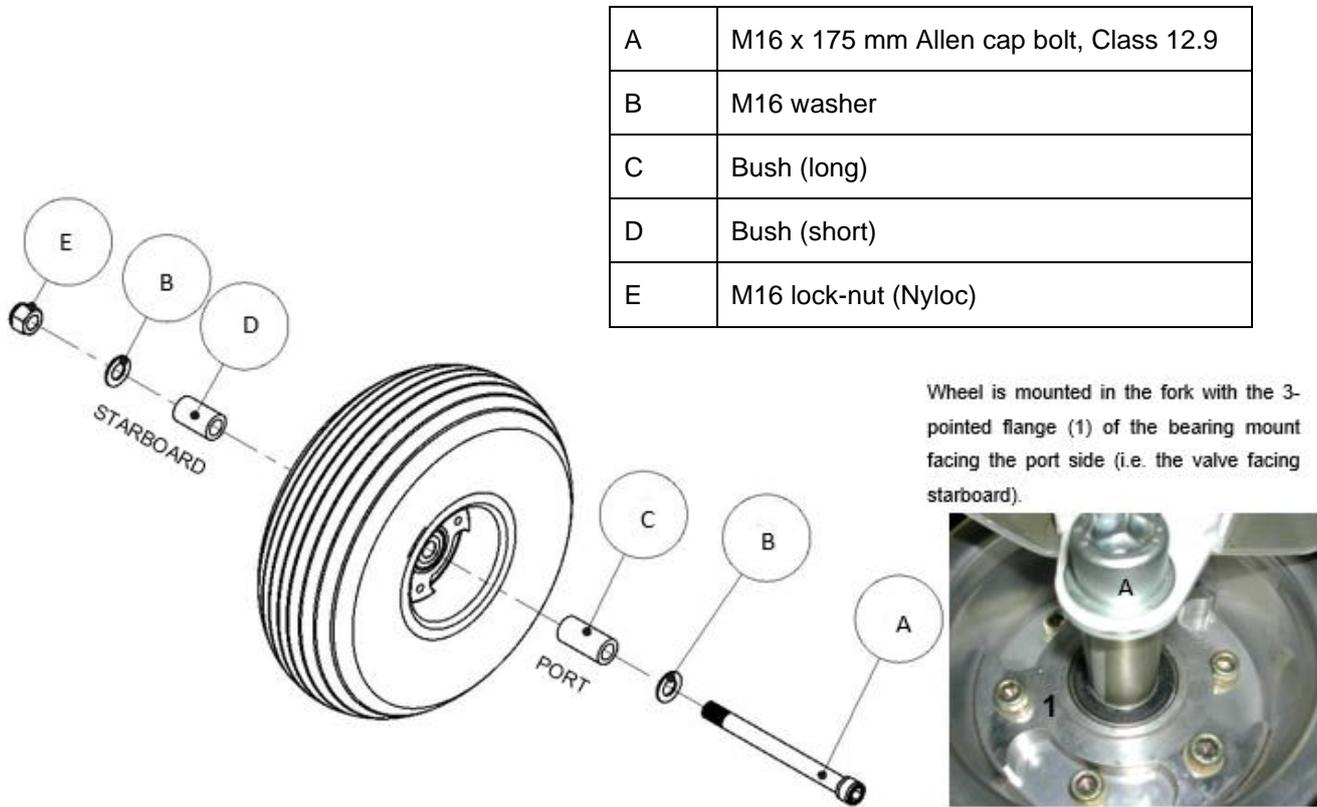

Figure 4: Nose gear wheel assembly
Step 1: In order to install the new replacement bolt with the correct thread length, reverse the procedure specified in Section 3.1. Ensure that the assembly of the wheel get reassembled correctly. Refer to the exploded view of the wheel axle assembly to ensure the components get placed in the correct positions, refer to Figure 4.